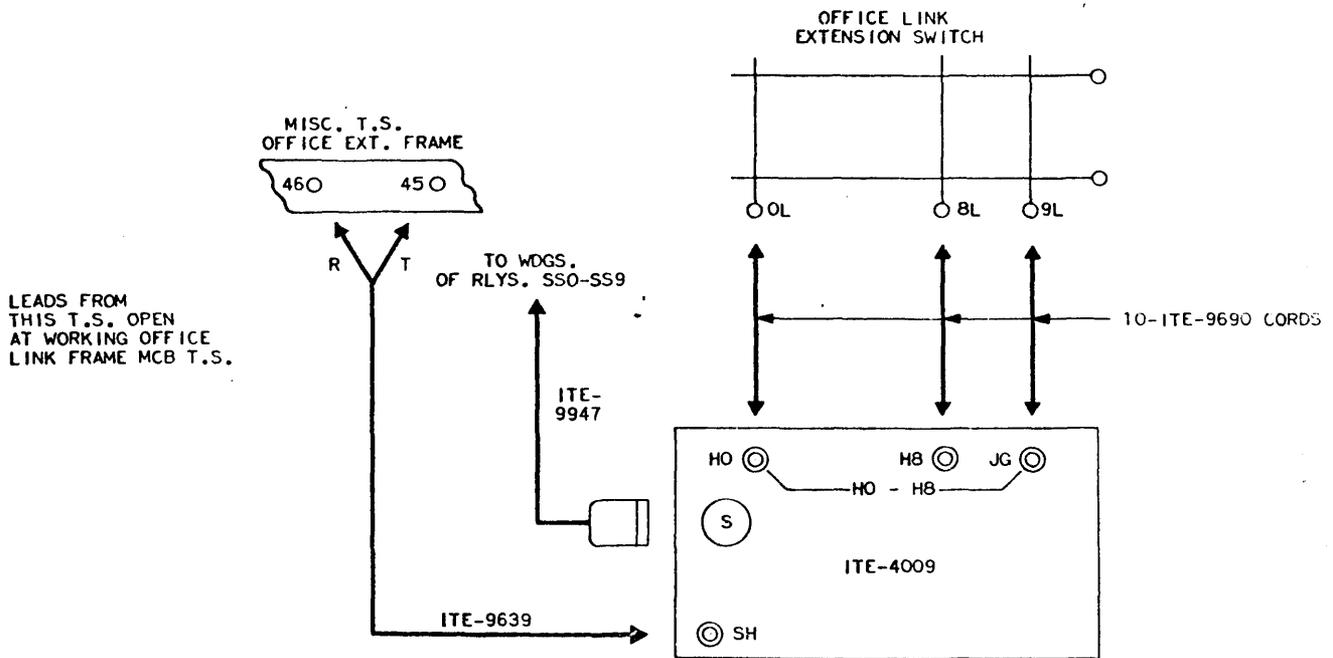

FIG. 15 SETUP FOR CROSSPOINT TEST, OFFICE LINK EXTENSION FRAMES ADDED TO WORKING FRAMES, T, R & S LEADS ONLY (#1 CROSSBAR)
- 14.11 Connect ITE-4009 test set to office link extension switch under test as shown in Figure 15.